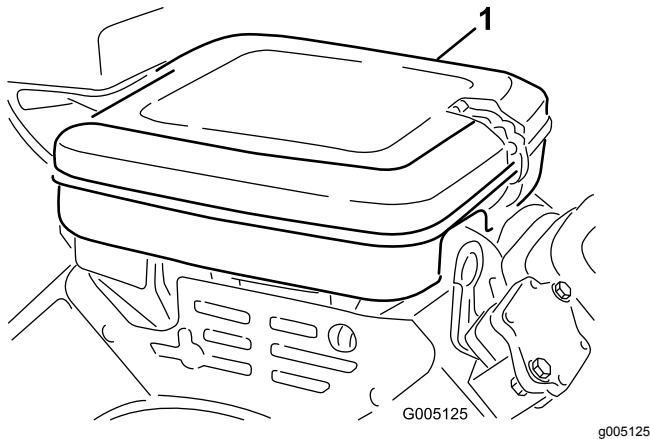

Figure 44
1. Release the locking clips and remove the air cleaner cover (Figure 44). Clean the cover thoroughly.